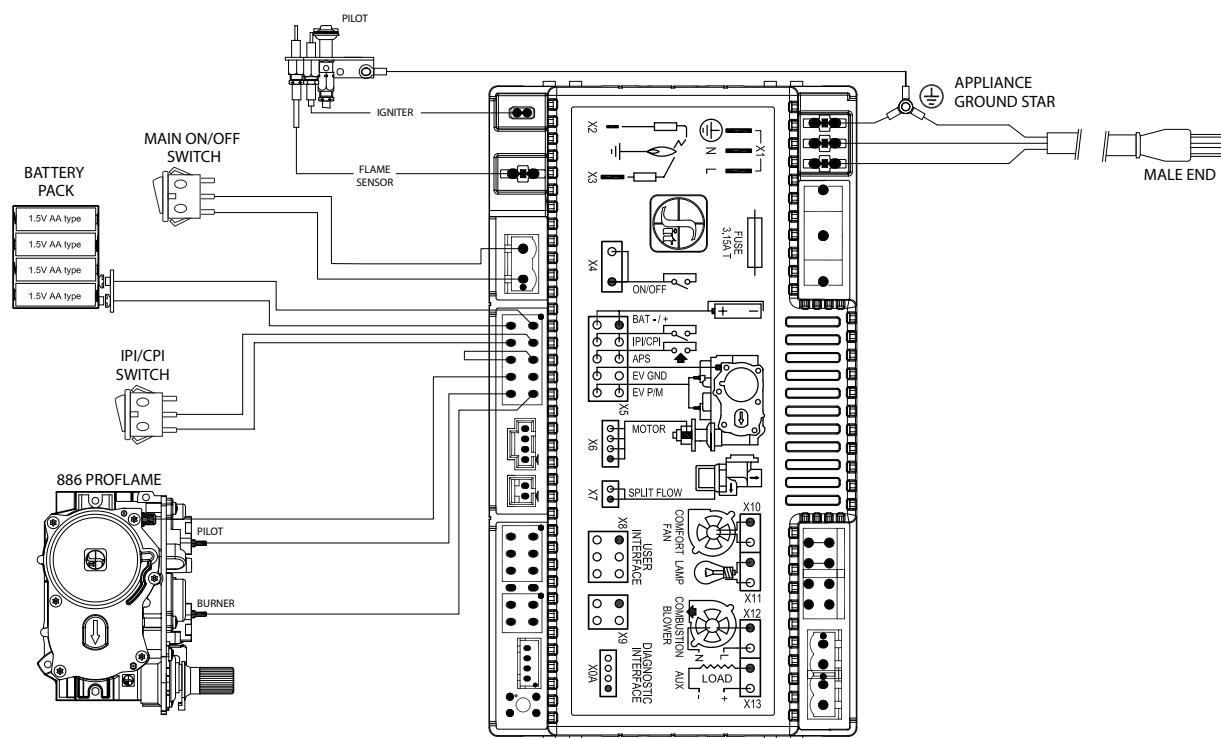

Figure 9.1, Electronic Gas Valve Wiring Schematic with ON/OFF Rocker Switch
- It is optional to disable the main ON/OFF rocker switch operating the main burner by disconnecting the wires from the control module (Figure 9.1).